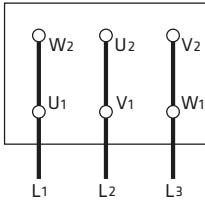

Figure 10a.  $\Delta$  - connection
- The mains connection on the terminal box depends on the nominal power of the motor, the power supply and the type of connection. The necessary connection of the bridges in the terminal box is shown in the following (Table 2 ve Figure 10a, 10b, 10c).